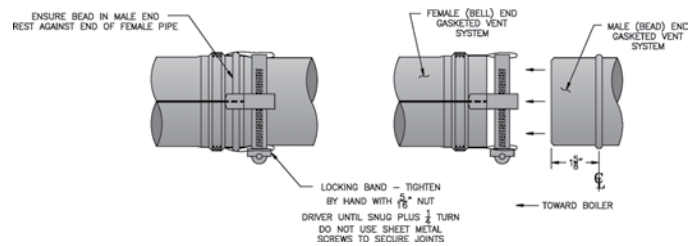

Figure 4B: Gasketed Vent Joint Detail
1. Procedure for Joining Gasketed Vent Pipe and Fittings. See Figure 4B.